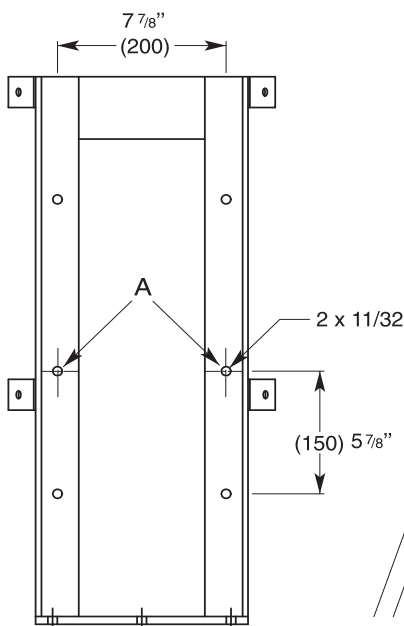
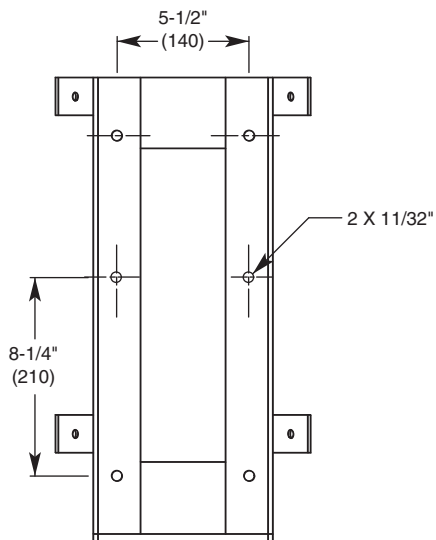

Fig. 8
Fig. 10
1. Locate and drill (2) 11/32" holes in the tank mounting bracket (**Fig. 8**) for 20 Gallon tanks, (**Fig. 10**) for 10/15 Gallon tanks.